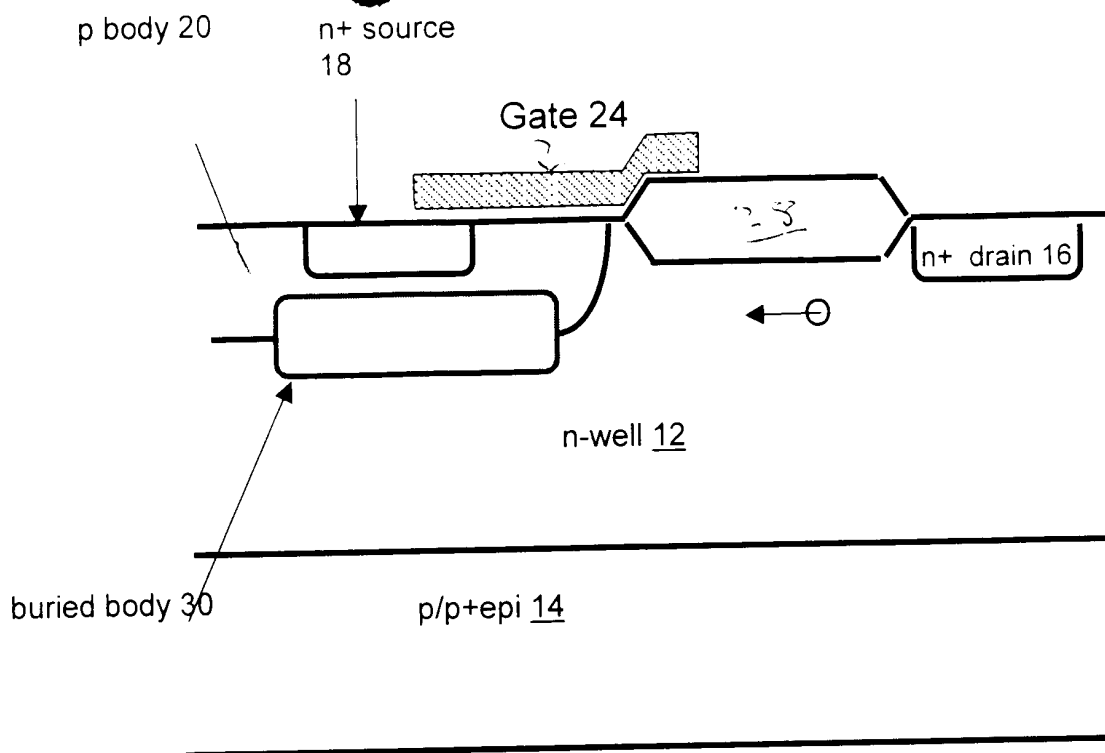

Figure 1
Fig. 3. (a) critical field vs. buried body dose for an n-Ldmos constructed as in Fig. 1. Calculating using the one-dimensional model of [1] and Eqs. (2), (3), and (4). (b) Corresponding drain current per unit gate width vs. buried body dose.